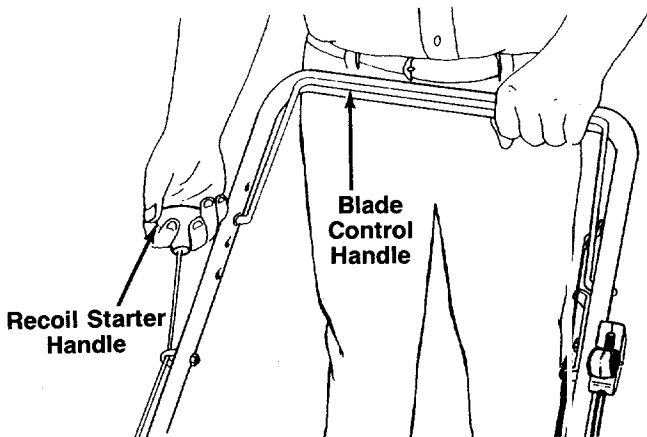

FIGURE 10.
4. Standing behind the unit, depress the blade control handle and hold it against the upper handle as shown in figure 10.